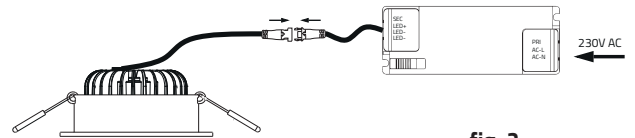

fig. 2
2. Connect the GAIL recessed downlight to the secondary side line of the converter using the connector supplied with the matching counterpart of the connector. Connect the existing 230 V AC mains voltage to the primary side of the converter (fig. 2).